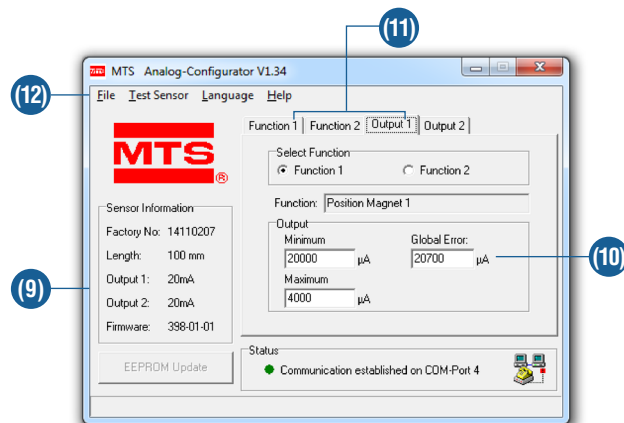
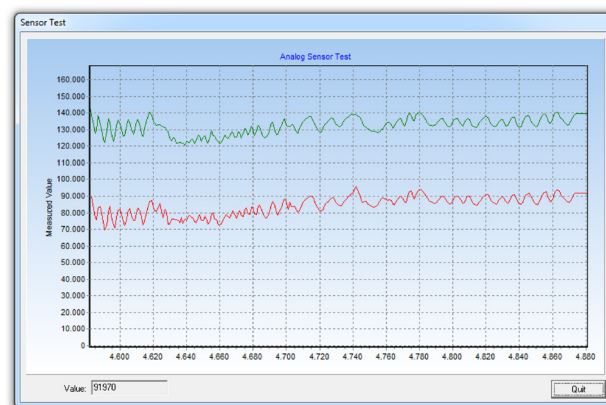

Fig. 29: Example of tab controls
Fig. 30: Diagram Test Sensor of analog sensor with 2 position magnets
- (9) Thereby, field Output Minimum indicates the current or voltage value which should be output at the starting point of the selected function. The output value pertaining to the end point must be specified in field Output Maximum (fig. 29).
- (10) Unless a position magnet is provided, or if it is in the sensor inactive zone, i.e. out of measuring range, Global Error is output. The error value can be adjusted with $-0.7 \dots 20.7 \text{ mA}$ or $-0.4 \dots 10.4 \text{ V}$
- (11) Index cards **Function 2**, **Output 2** and the functional reference to the 2nd magnet in field Source, are provided only for sensors with two analog outputs.
- (12) Menu Sensor test provides a data display (fig. 30), which show the absolute positions of the position magnets. Compared with the sensor measuring rate, serial data transmission between sensor and PC is relatively slow, i.e. not every actually measured value can be displayed. For this reason, only every 50th measurement value appears in the diagram.